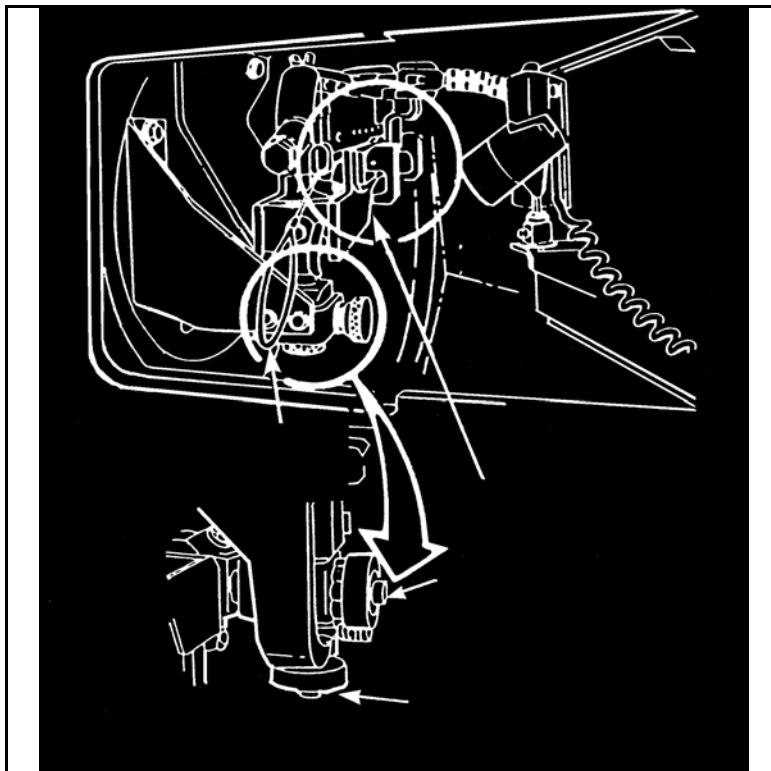

Figure 5. Elevation and azimuth adjustment knobs.
5. Make adjustments to move the strike of the rounds into the target area (Figure 5).